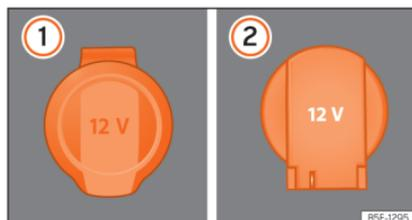

Fig. 147 12 volt power socket: ① inside the front armrest, ② in the luggage compartment.
- Lift the power socket cover »» Fig. 147 ①.
- Lift the power socket cover »» Fig. 147 ②.